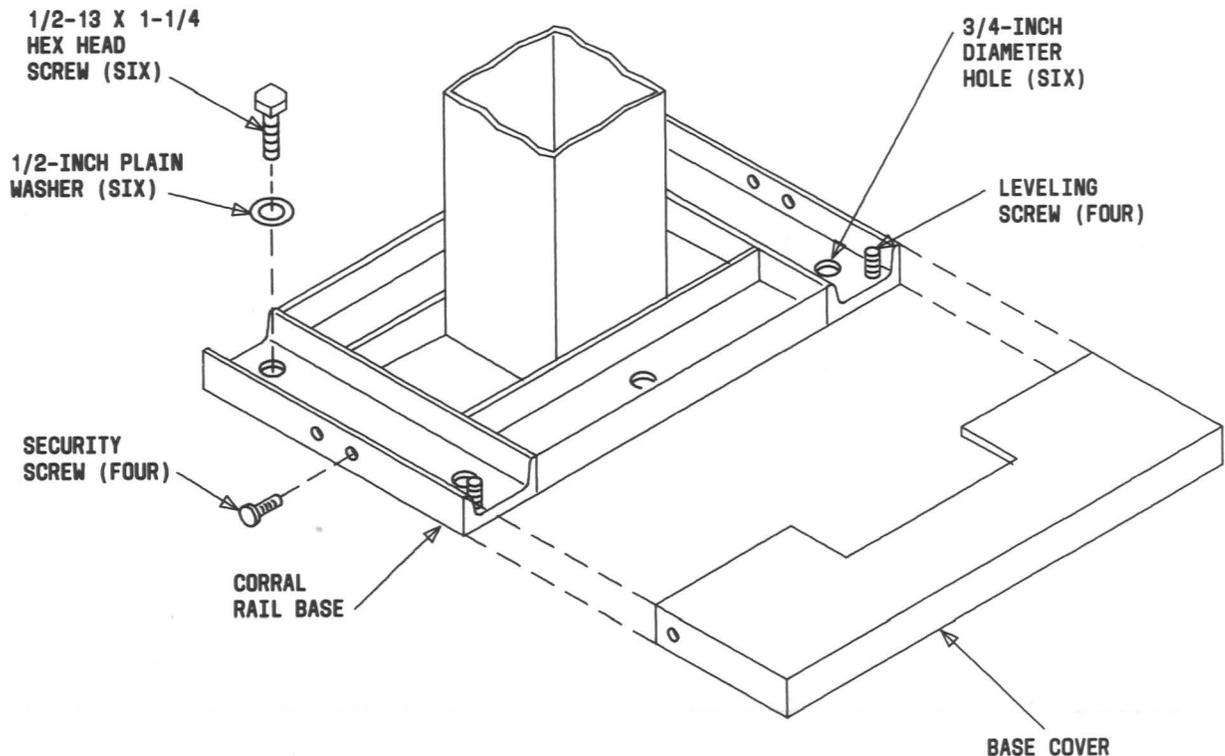

Fig. 5—Base of Corral Rail Leg
2.04 Each vertical tube has a base containing four leveling screws and six 3/4-inch diameter mounting holes (Fig. 5). The hole pattern in this base is identical to the hole pattern in the SENTRY* mounting.